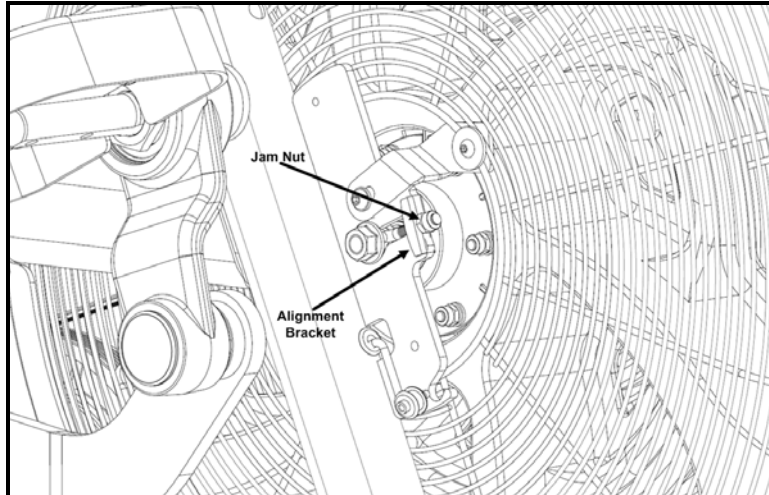

Fig. 12
14. Remove the eyebolt axle alignment bracket (Fig. 12) by loosening the securing jam nut with a 10mm open wrench.